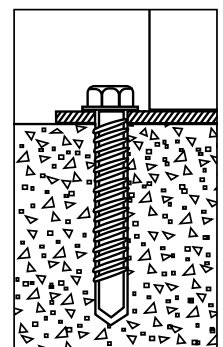

Figure 4
9. Insert the four concrete Wedge-Bolt Anchors into the corner holes of the mount. Begin tightening the Wedge-Bolt Anchor by rotating clockwise and applying pressure in toward the base. This will engage the first few threads as the Wedge-Bolt Anchor begins to advance. Continue to tighten until the head of the Wedge-Bolt Anchor is firmly seated against the post mount (Figure 4). Repeat for the remaining Wedge-Bolt Anchors.